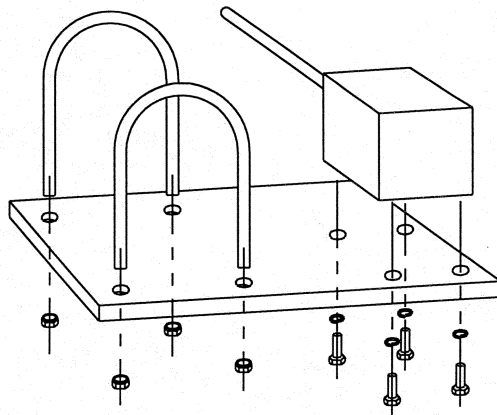

FIGURE 1
1. ATTACH SWITCH TO PLATE AS SHOWN IN FIGURE 1 USING THE FOUR (4) 1/4-20 BOLTS AND LOCKWASHERS.